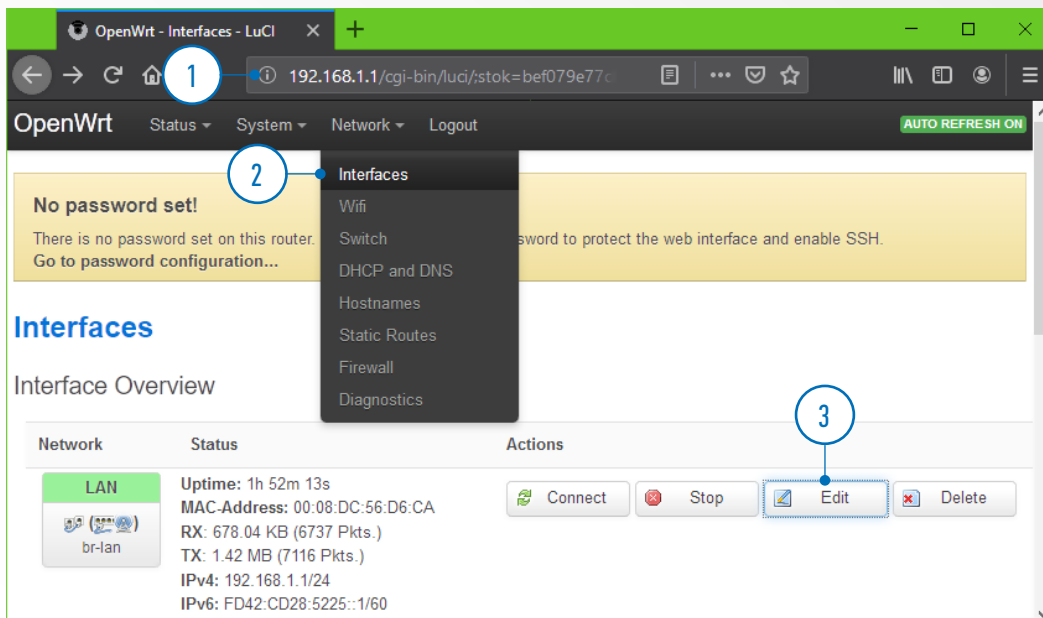

FIGURE 4 EDITING THE LAN CONFIGURATION OF THE A1560
2. Select **Network -> Interfaces** from the top menu (Fig.4 Pos.2)
3. Click the **Edit** button belonging to **LAN** Network (Fig.4 Pos.3)